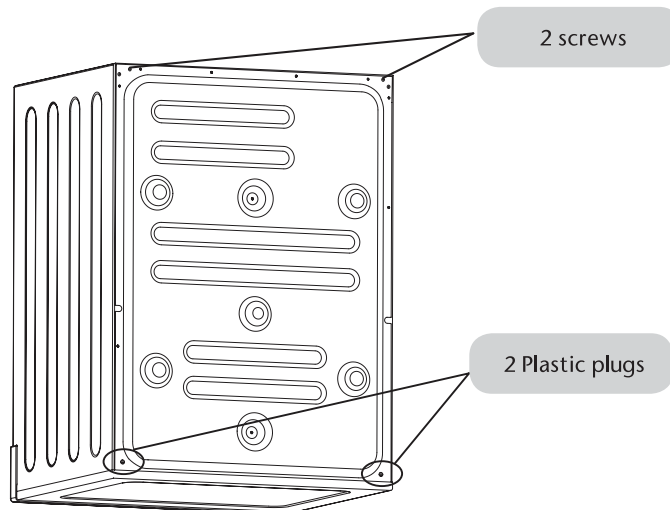

FIG. 2.
3. To install the hooks to the dryer, position the dryer in the inverted position. Remove the 2 screws and 2 plastic plugs as indicated in Fig. 2.